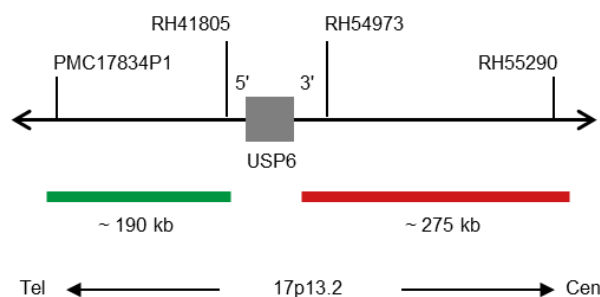

Fig. 1: SPEC USP6 Probe map (not to scale)
- Digoxigenin-labeled polynucleotides (~0.50 ng/μl), which target sequences mapping in 17p13.2* (chr17:4,825,753-5,017,582) distal to the USP6 breakpoint region (see Fig. 1).
- Dinitrophenyl-labeled polynucleotides (~0.75 ng/μl), which target sequences mapping in 17p13.2* (chr17:5,087,046-5,361,104) proximal to the USP6 breakpoint region (see Fig. 1).